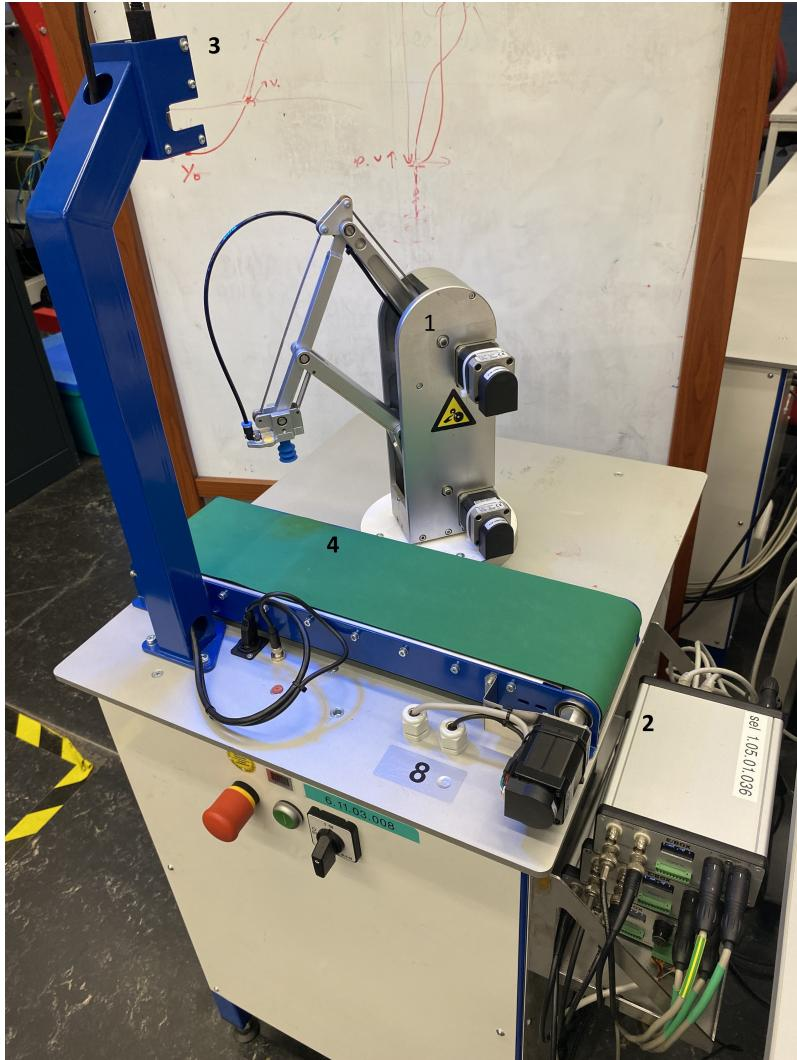

Figure 1: Robot arm setup. (1) robot arm, (2) E-boxes, (3) camera and (4) conveyor belt.
The robot arm setup consists of several parts, seen in Figure 1: the robot arm (1), E-boxes (2), camera (3), conveyor belt (4) and Raspberry Pi (not shown in the figure). Your laptop can directly communicate with the camera, however communicating with the robot arm and conveyor belt is more involved. This requires the E-boxes, Raspberry Pi and SPERTE. The E-boxes are ethercat measurement boxes that change digital signals of your laptop to analogue signals for the setup and vice versa. The E-boxes solely work with Linux, whereas your laptop does not necessarily run Linux. Therefore, the Raspberry Pi is used to communicate with the E-boxes. Lastly, the SPERTE software is used to convert the MATLAB code and models of your laptop to code that the Raspberry Pi can understand.